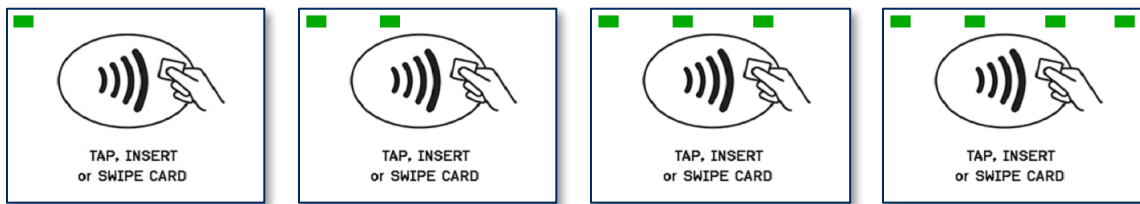

Figure 6-19 - Tap Read Is Complete
- 2) Briefly hold the card, smartphone, or other contactless payment device over the contactless logo on the display. The device quickly shows two solid green rectangles at the upper left to show it is processing, then three rectangles to show it has successfully read the tap, then four rectangles to show the read is complete (see **Figure 6-19**). The device will also beep when the read is complete.